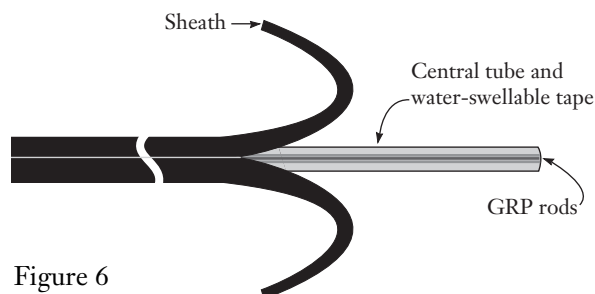

Figure 6
4.7 Starting at the end of the cable, peel back both sections of split sheath to expose the central tube, water swellable tape and GRP rods (Figure 6).